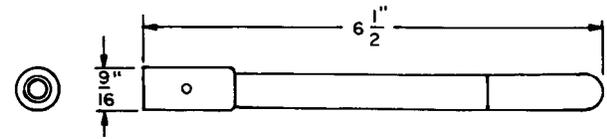

Fig. 10—572A or B Test Probe Tool
2.10 572A and B: The 572A and B test probe tools (Fig. 10) are used with the 1A fault locator test set.